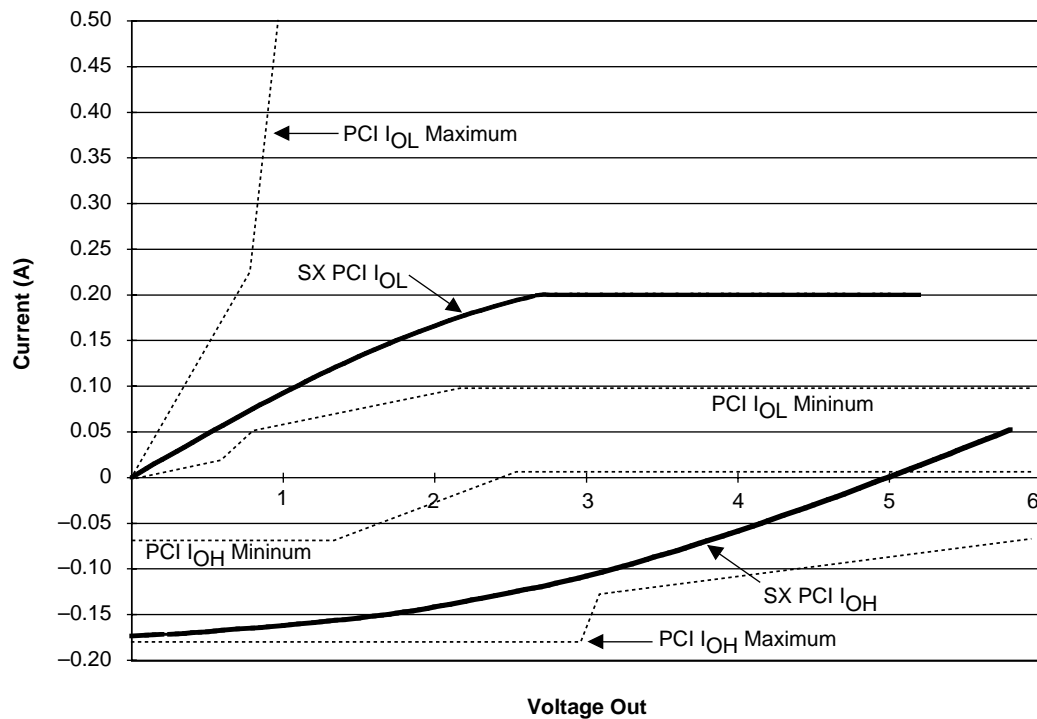

Figure 9 • 5.0V PCI Curve for SXA Family
1. Refer to the V/I curves in Figure 9. Switching current characteristics for REQ# and GNT# are permitted to be one half of that specified here; i.e., half size output drivers may be used on these signals. This specification does not apply to CLK and RST# which are system outputs. "Switching Current High" specification are not relevant to SERR#, INTA#, INTB#, INTC#, and INTD# which are open drain outputs.
3. Maximum current requirements must be met as drivers pull beyond the last step voltage. Equations defining these maximums (A and B) are provided with the respective diagrams in Figure 9. The equation defined maxima should be met by design. In order to facilitate component testing, a maximum current test point is defined for each side of the output driver.
Figure 9 shows the 5.0V PCI V/I curve and the minimum and maximum PCI drive characteristics of the A54SX16P family.